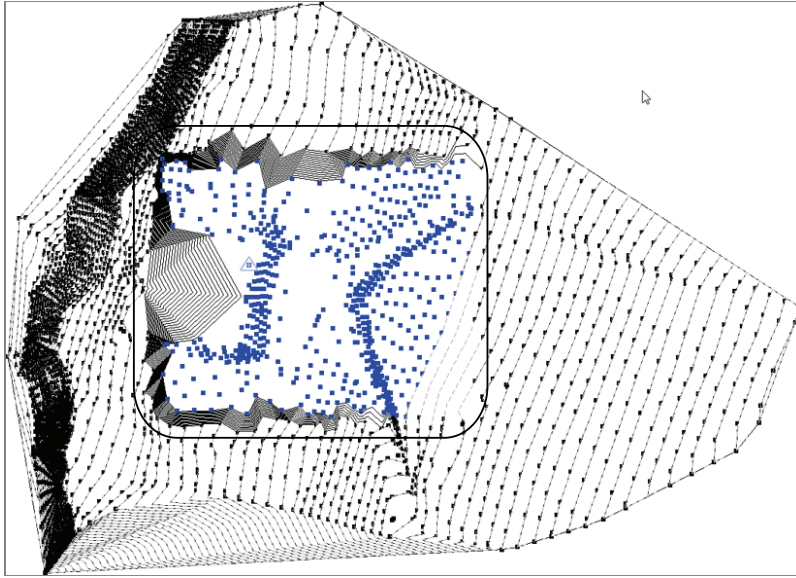

FIGURE 18.34: Selecting a range of points
9. Draw a selection window around the center of the site (doing so selects a bunch of points), as shown in Figure 18.34.